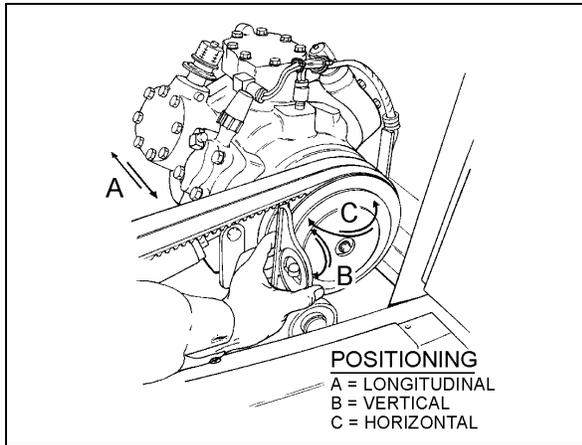

FIGURE 23: COMPRESSOR ALIGNMENT 22072
1. Rest an extremity of a straight edge of approximately 46 inches (117 cm) against the upper part of the outer face of crankshaft pulley, positioning the other end close to the compressor clutch pulley (Figs. 23 & 24).
Rest a short "angle and level indicator" on the outer side face of the crankshaft pulley, adjust the level indicator inclination at 0° and check if the compressor pulley is at same angle (Figs. 23 & 24). If it is not the same, shim under the appropriate pillow block in order to obtain the correct angle.